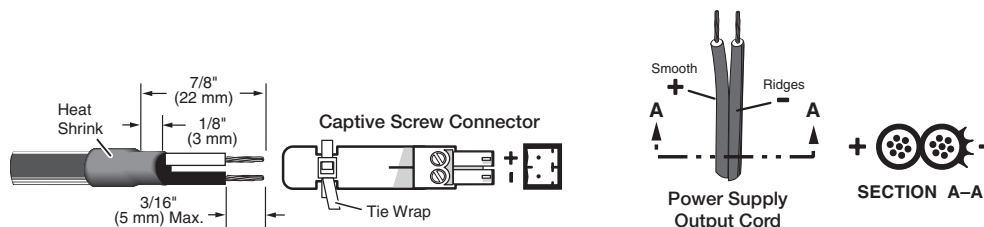

Figure 4. Wiring the Power Connector
- Power supply voltage polarity is critical. Incorrect voltage polarity can damage the power supply and the unit. The ridges on the side of the cord (see figure 4) identify the power cord negative lead.